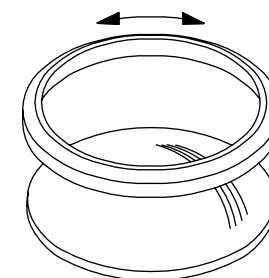

Fig.6-10.2
3. Grind into the new seat against the ball segment. Add to valve grinding paste and rub the seat and ball segment against each other until a continuous matte finish obtained around sealing surfaces (→ Fig.6-10.2).